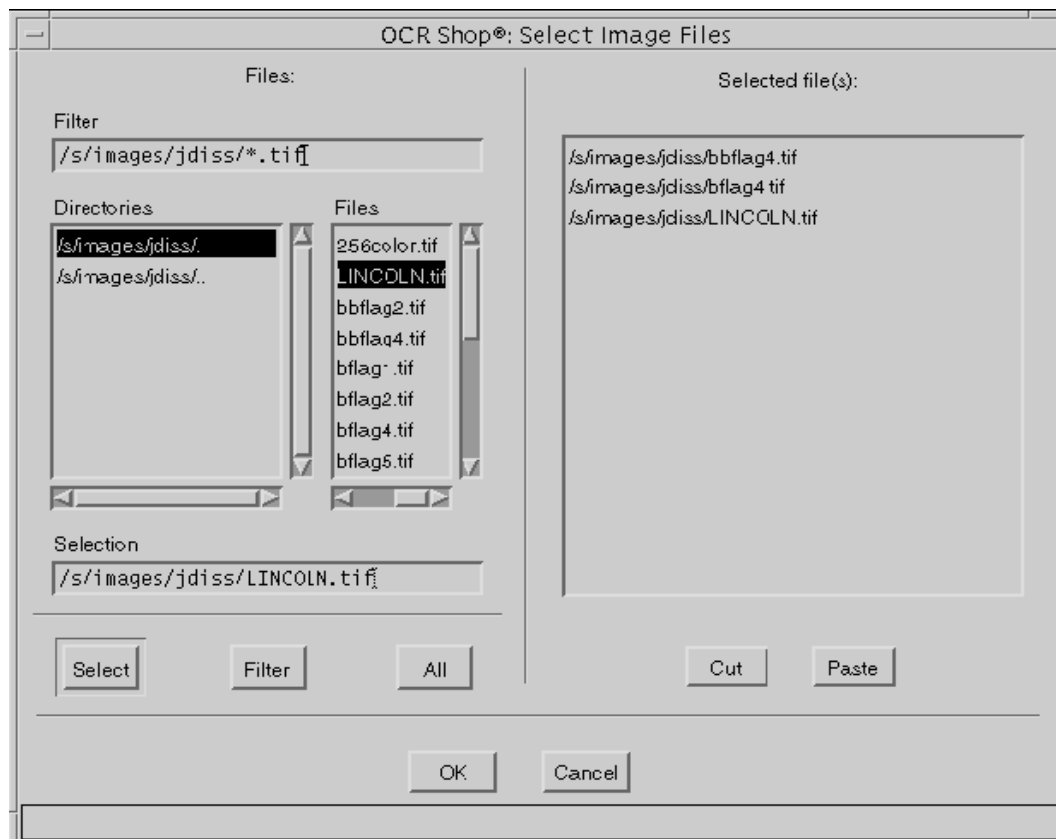

Figure 7-2 Select Image Files
1. Select File(s)... to load a previously saved image for OCR. The Select Image Files window will appear, See Figure 7-2.